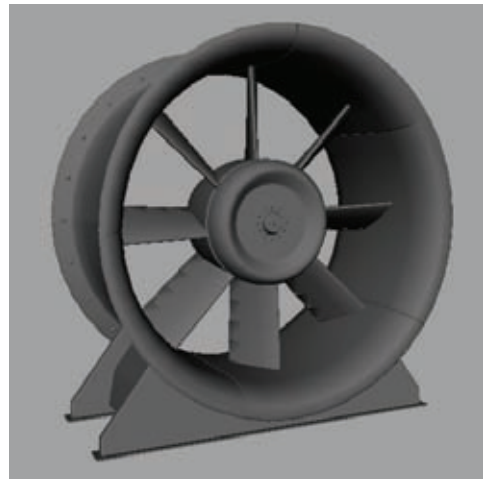

Figure 7.12
6. Bevel the outer edges of the base shapes to round their corners. You can also add two thin cubes below the two outer shapes to serve as supports, as in Figure 7.12.